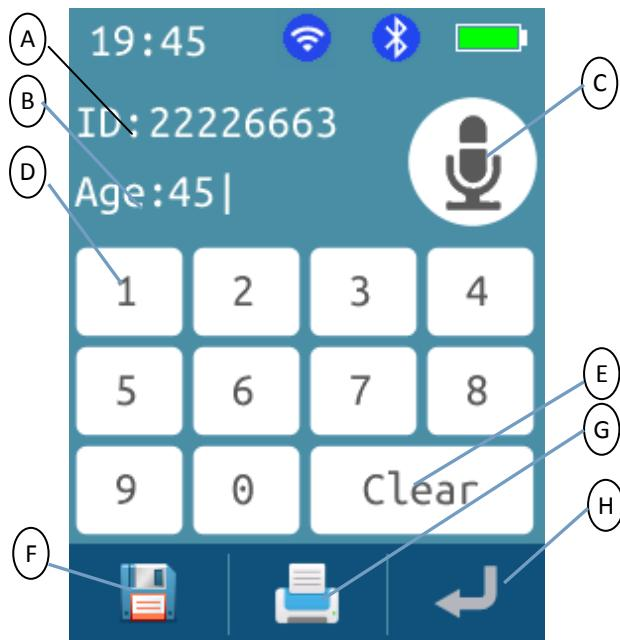

Figure 5-7 M2-W Patient input interface
Click on the patient information icon  at the main interface (Figure 5-2 or figure 5-3) and enter the patient information input interface (Figure 5-7). Click the number (ID) and age (Age) input box to input the corresponding information at this time. ID can input 10 digit Age and enter 3 digit digits. Record the